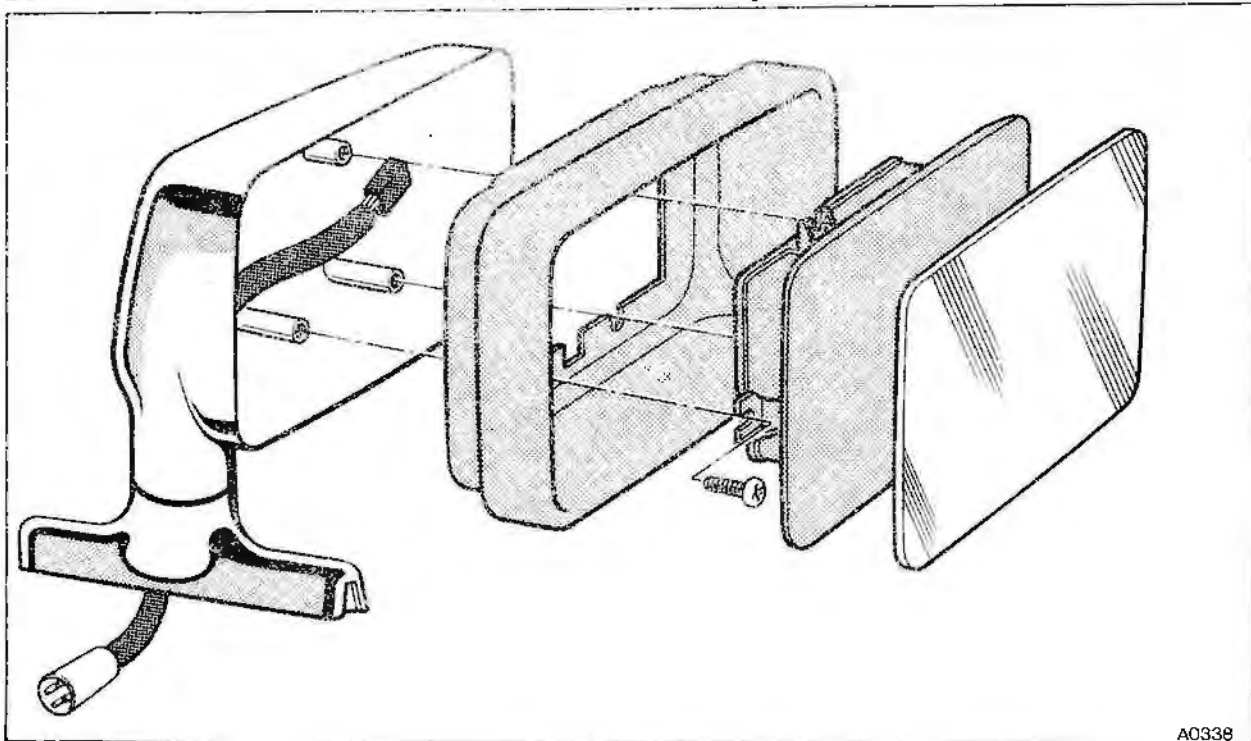

Fig.1
13. Assemble the mirror as shown in figure 1.